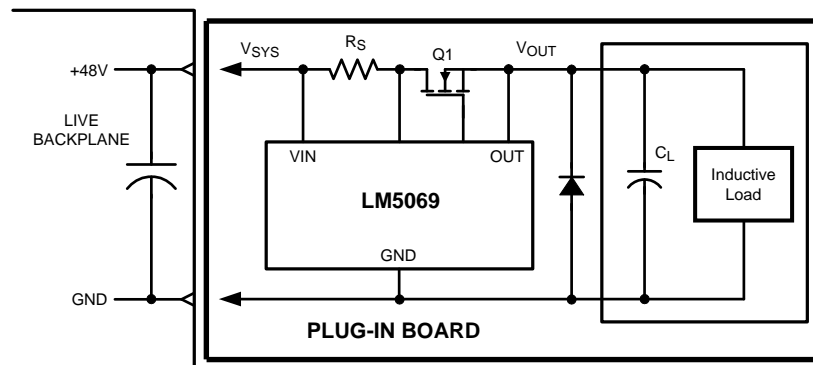

**Figure 38. Recommended Board Connector Design**
- The board's edge connector can be designed to shut off the LM5069 as the board is removed, before the supply voltage is disconnected from the LM5069. In Figure 38 the voltage at the UVLO pin goes to ground before  $V_{SYS}$  is removed from the LM5069 due to the shorter edge connector pin. When the board is inserted into the edge connector, the system voltage is applied to the LM5069's VIN pin before the UVLO voltage is taken high.